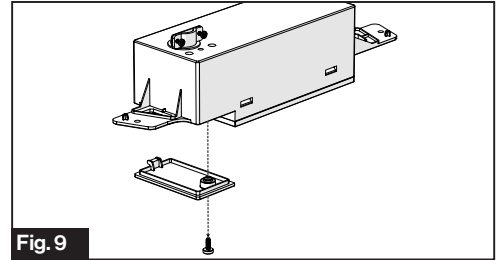

Fig. 9
9. Remove the cable compartment cover using a Phillips screw driver. (Fig. 9)